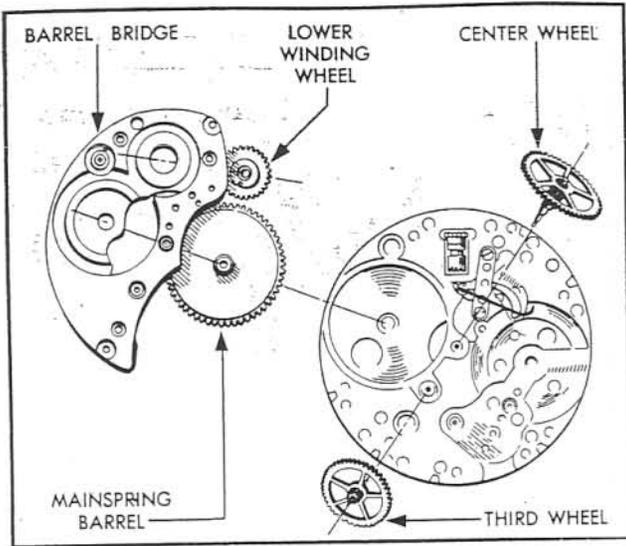

Figure 20—Barrel Bridge Disassembly
(9) **SECONDS SETTING MECHANISM.** (See figure 20.)—Remove the two screws from the seconds setting cap, which holds the seconds setting mechanism to the pillar plate. Then lift out the seconds setting cap, the seconds setting lever with its attached spring finger, and the seconds setting lever spring which is underneath. Be sure to lift out the cap screws before raising the seconds setting mechanism because the spring will jar the mechanism and might cause the screws to be lost.